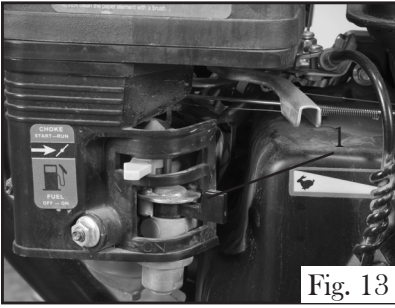

Fig. 13
1. Turn the fuel valve to the “OFF” position (Fig. 13 - 1).